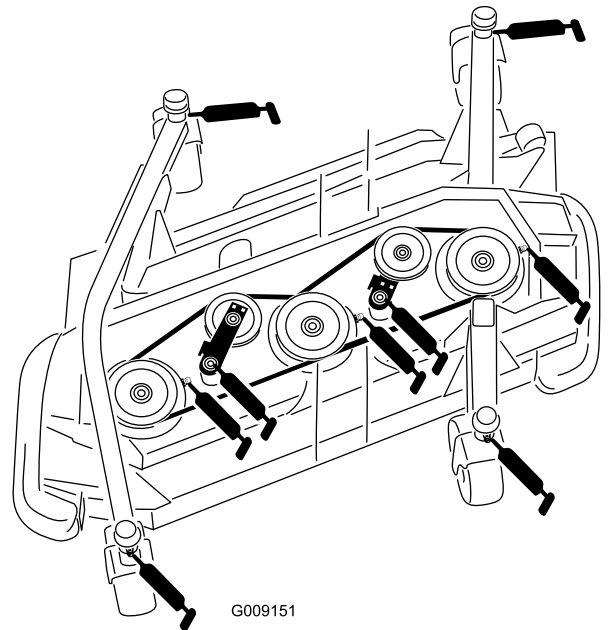

Figure 54
- 3 spindle-shaft bearings (located on the spindle housing) as shown in Figure 54
- 2 idler-arm-pivot bushings (located on the idler-pivot shaft) as shown in Figure 54
- 4 caster-fork-shaft bushing (Figure 54)